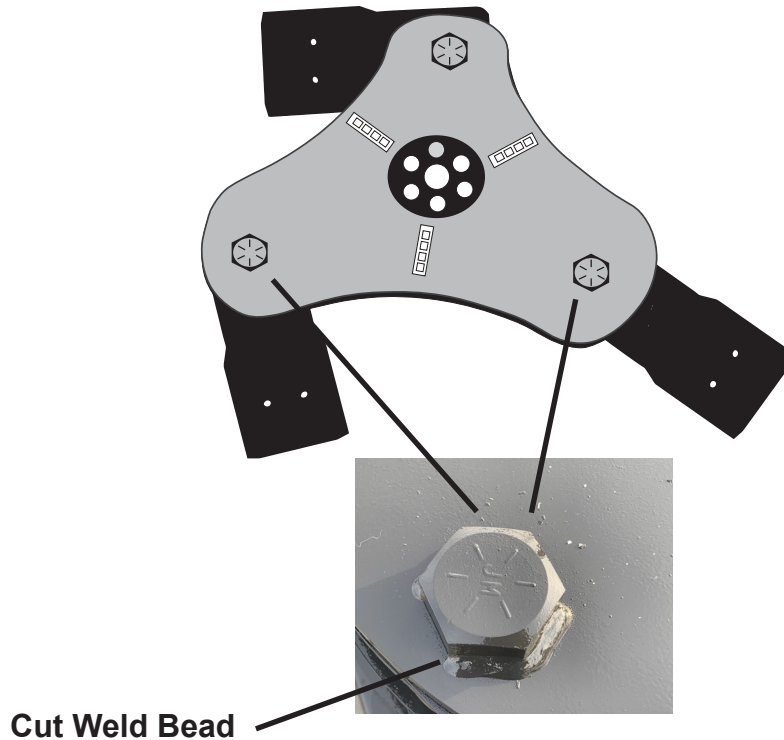

Figure 4.6a - Bolt Shank Removal from Blade Holder
2. Carefully cut the welded bead around the bolt head to allow the bolt to rotate. **DO NOT** cut into the blade holder (see Figure 4.6a on next page).